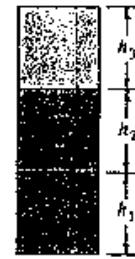

Fig. 2
2. Three different materials with moduli E_1 , E_2 , and E_3 , respectively, are to be bonded to form a beam cross section as shown in Fig. 2. Develop expressions for (a) the bending stresses in each of the materials, and (b) the moment-curvature relationship. (25%)